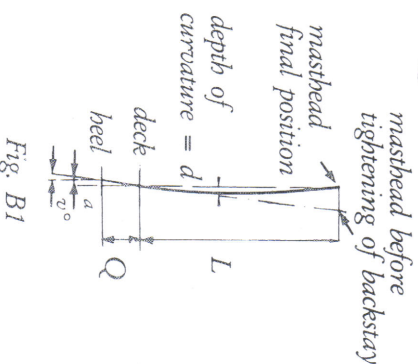

Fig. B1
4. **Fore and aft adjustment**, which (apart from the location of the heel of the mast) is controlled by the backstay, forestay and inner forestay (or double lower shrouds) must be checked. The mast should bend slightly forwards at the spreaders. See also Fig.B1. Check that keelstepped masts do not form an S-curve in the lower part. Sight along the aft face of the mast from deck level. As the load on the forestay increases, the masthead tends to move forward, and this must be stopped. Even if the masthead is well towards the stern in its rest position, it may be necessary to counteract this tendency by the use of some form of backstay tensioner.